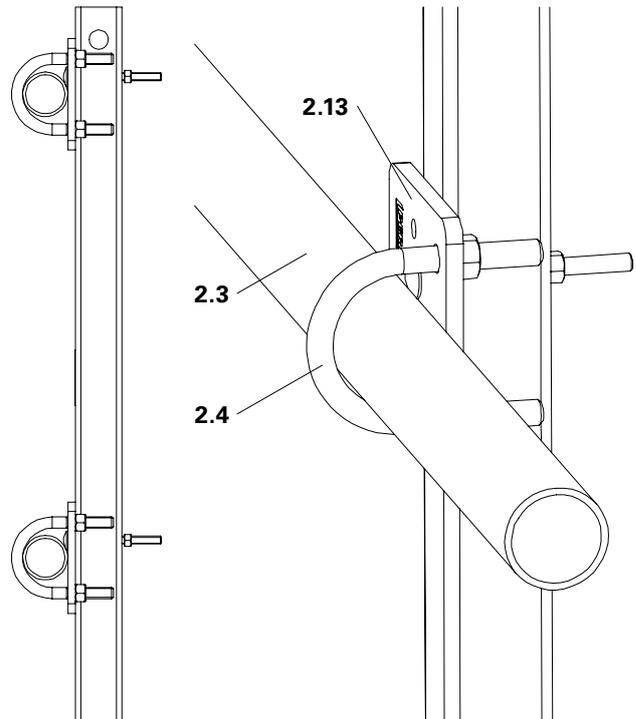

Fig. A5.02a
4. Fix Guardrail Connection Plate ACS/SCS (2.13) to Guardrail Post SCS 150 (2.12) using F.H. Bolts M8 x 100 MU. (Fig. A5.02a)